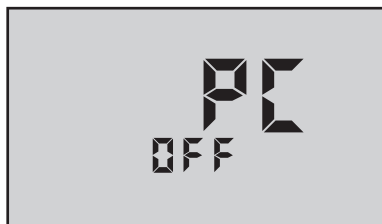

Figure 30
5. Press and HOLD  key until the menu "**PC OFF**" appears, (see Figure 30).